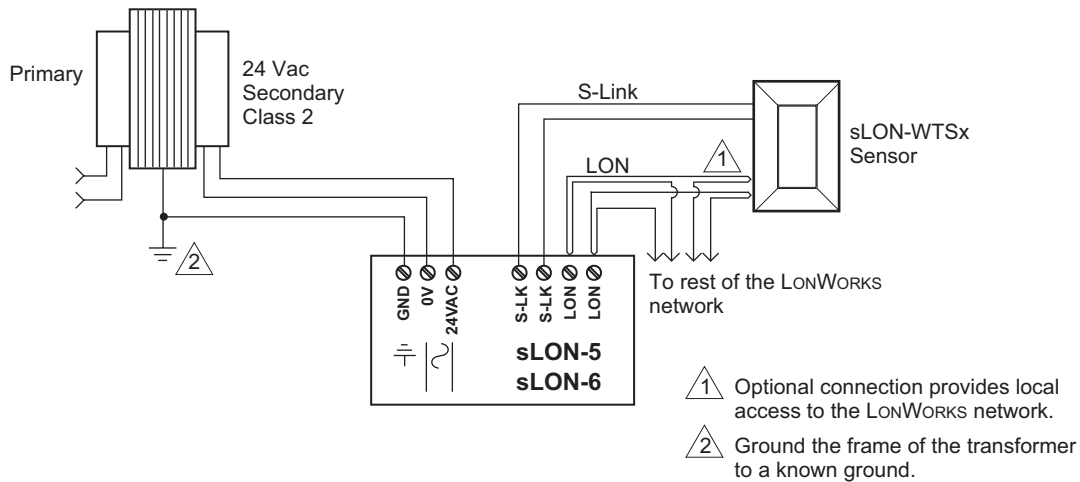
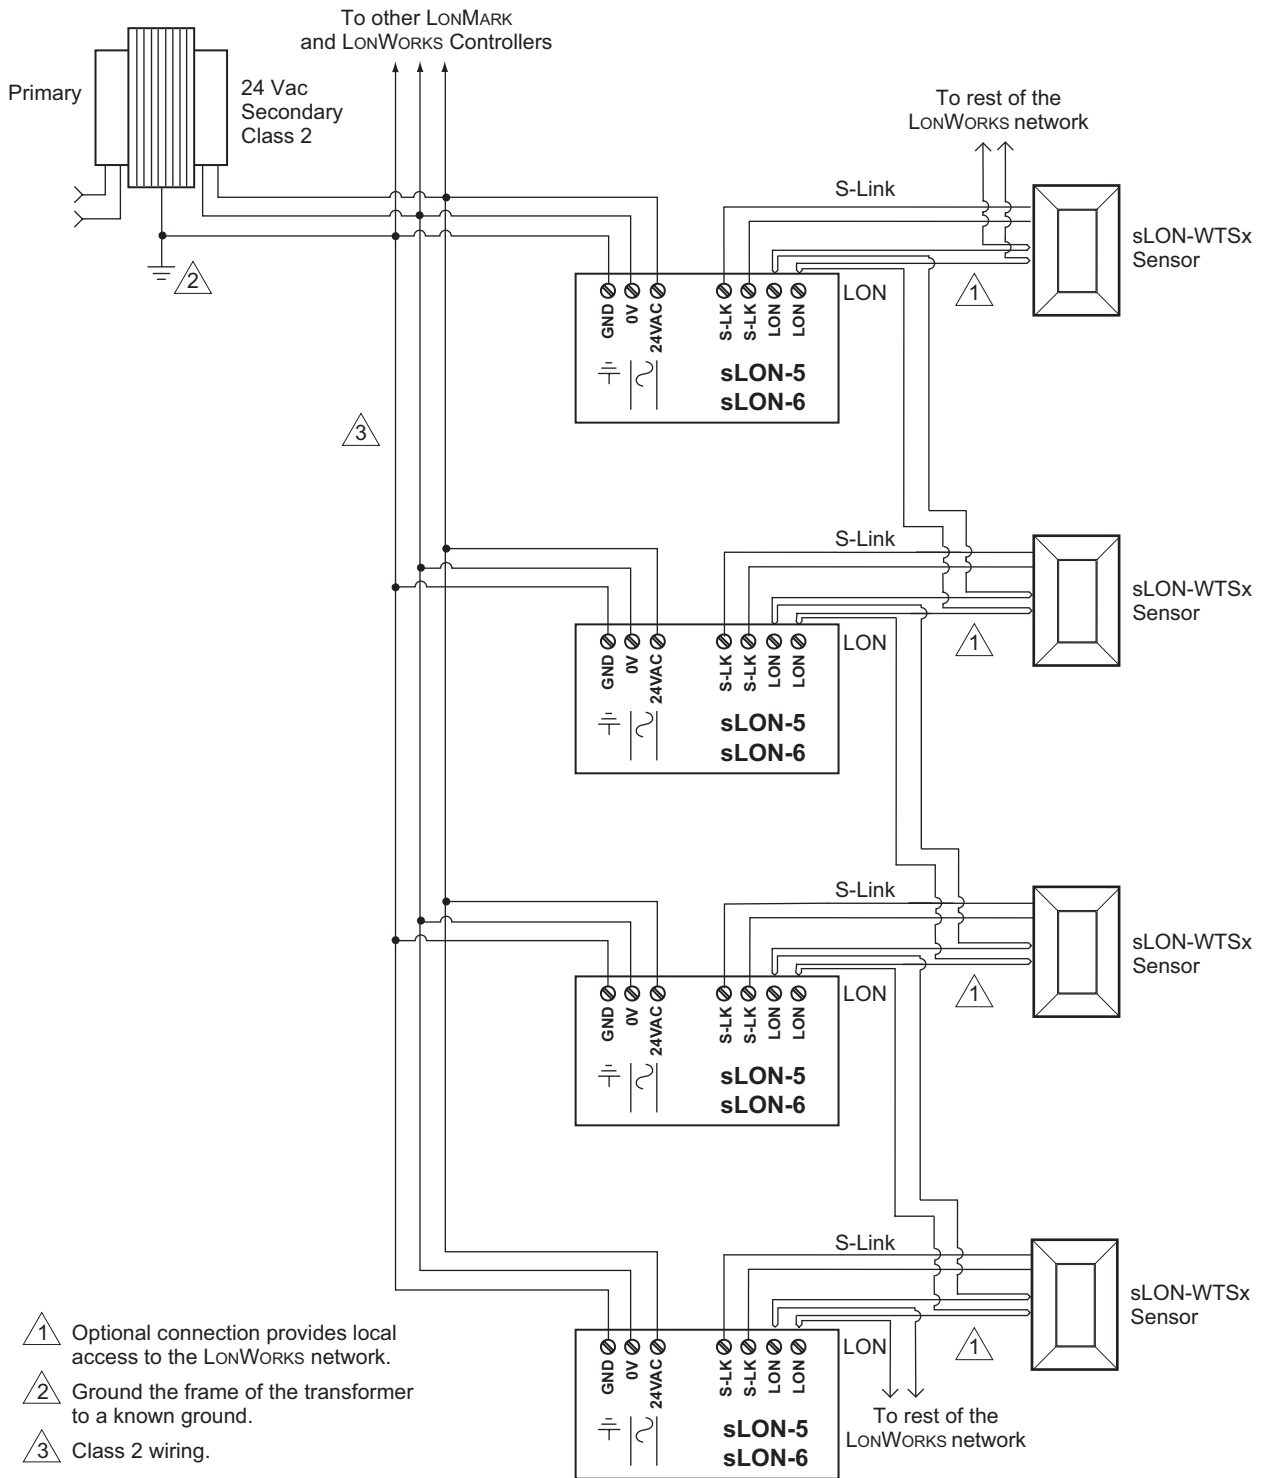

Figure-17 Power Supply Connection — Single Controller Powered from a Separate Class 2 Power Source.
Figure-18 Power Supply Connection — Multiple Controllers Powered from a Separate Class 2 Power Source and Sharing Communications in a Free Topology Segment.
Refer to Figure-17 and Figure-18 for acceptable wiring configurations.
- 4.If multiple devices are powered from the same transformer (Figure-18), verify that wiring polarity has been maintained between all connected devices, and that all other issues associated with powering multiple devices from a common transformer have been addressed.